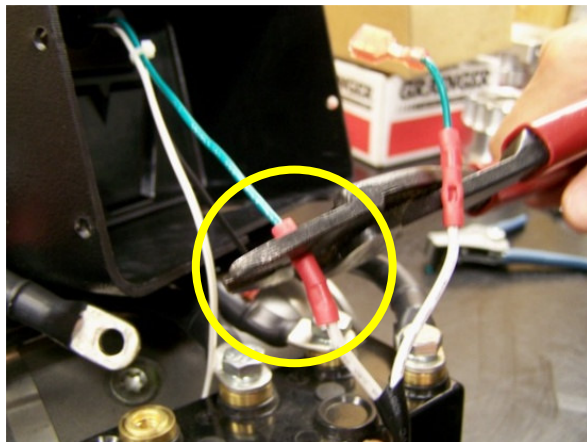

Figure 19
Step 17: Splice together the green wire from the control pack with the white wire from the motor TPD using the provided butt connector PN 76406. (Figure 19)